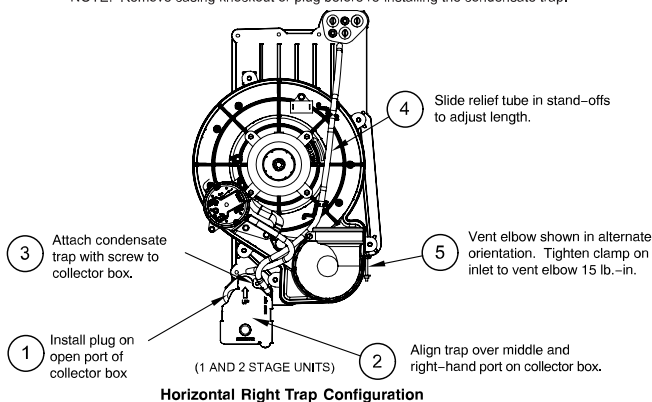
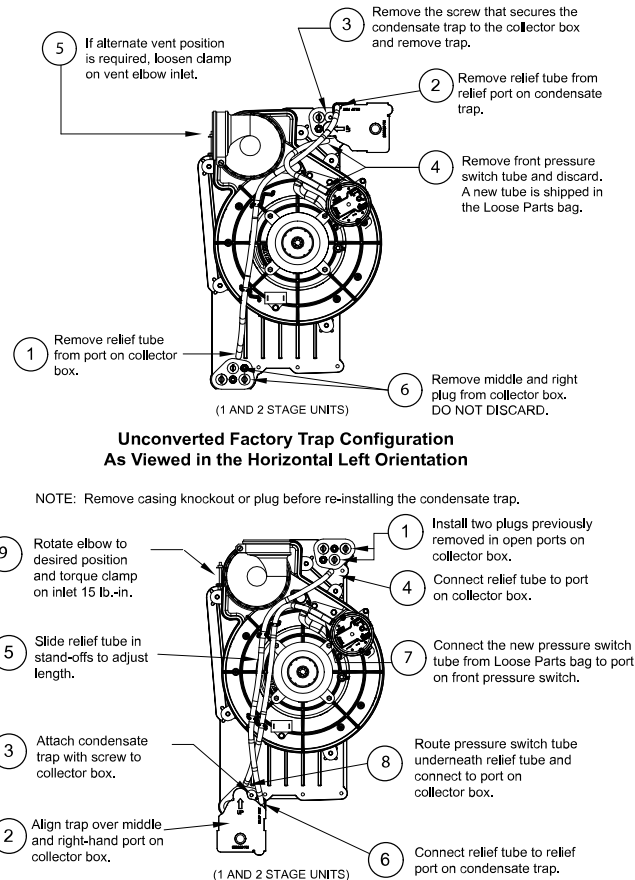

Fig. 10 – Horizontal Right Trap Configuration (Appearance may vary)
Fig. 11 – Horizontal Left Configuration (Appearance may vary)
When the furnace is installed in the horizontal right position, the condensate trap will be initially located at the bottom of the collector box, as received from the factory. See the top image in Fig. 10. When the furnace is installed in the horizontal left position, the condensate trap will be initially located at the top of the collector box, as received from the factory. See the top image in Fig. 11. In both cases the trap must be repositioned on the collector box for proper condensate drainage. See the bottom images in Fig. 10 and Fig. 11.
- Fig. 10 shows the condensate trap and tubing before and after relocation in the horizontal right position.
- Fig. 11 shows the condensate trap and tubing before and after relocation in the horizontal left position.